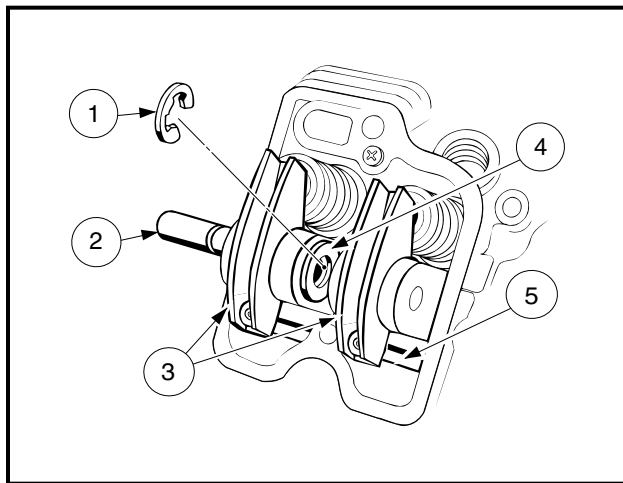
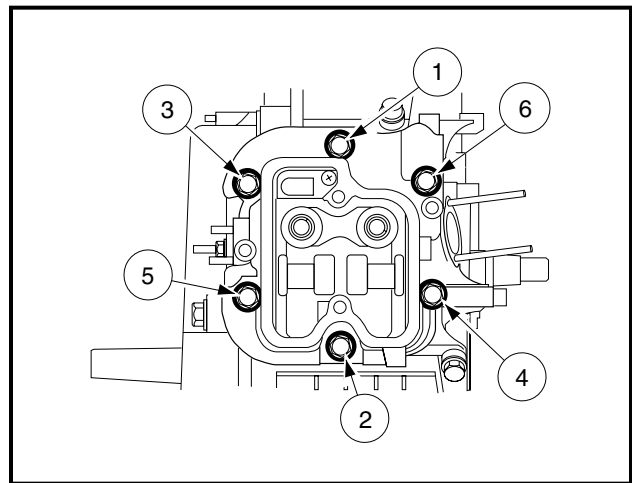

Figure 3-31 Rocker Arm Assembly
Figure 3-32 Bolt Torque Sequence
2. Insert the rocker shaft (2) through the head posts and rocker arm (3) and washer (4) (**Figure 3-31, Page 3-17**).
3. Slide the washer (4) against the exhaust rocker and fit the E-ring (1) into the groove in the rocker shaft (2).
7. Use a torque wrench to tighten the six bolts in the sequence shown (**Figure 3-32, Page 3-17**).